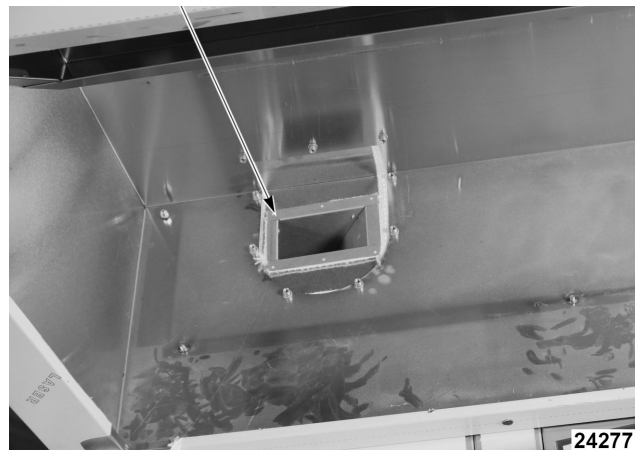
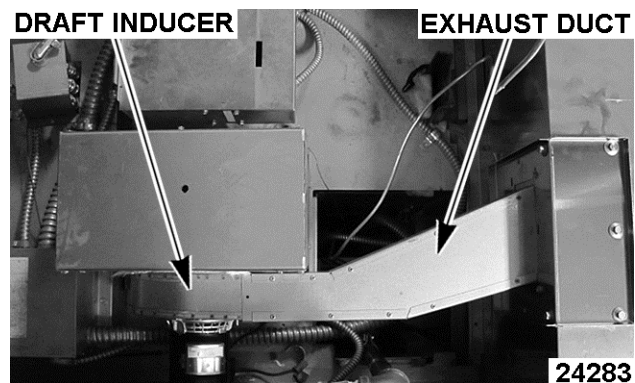

Fig. 108
Fig. 109
- Insert exhaust duct through hood (Fig. 108) and connect to draft inducer (Fig. 109).